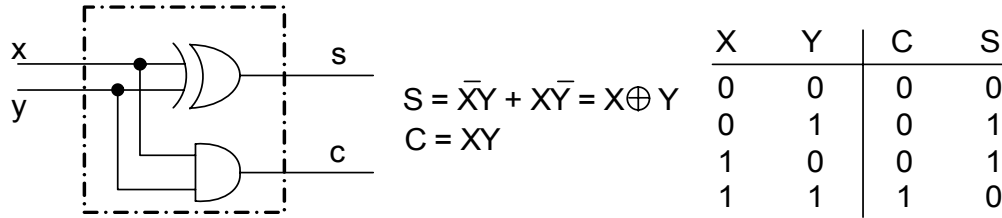
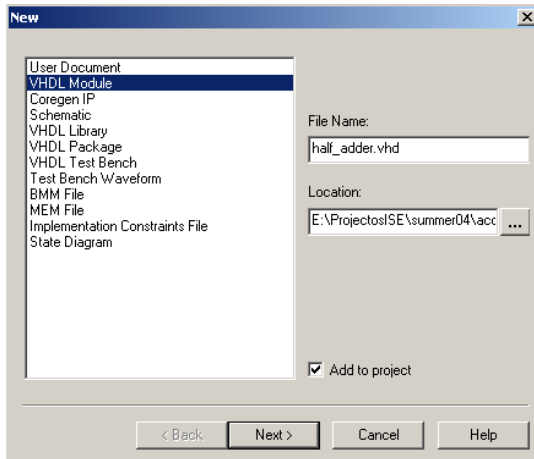
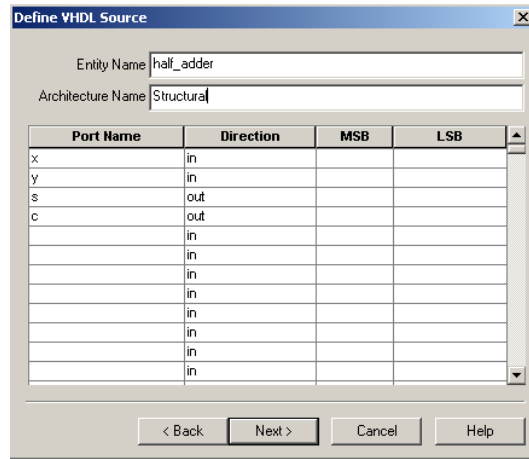
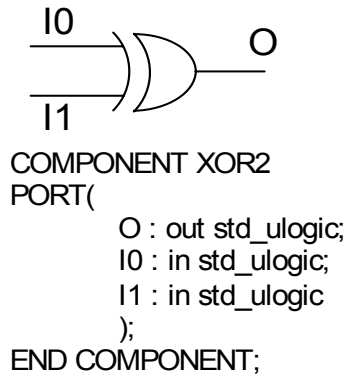

Figure 1; half adder logic diagram, equations and truth table
Figure 5
Figure 6
Figure 7; XOR gate and its component declaration.
A basic half adder logic diagram is shown in figure 1, including its equations and truth table. It is called a half adder because it does not include a “*carry in*” within its inputs. Note that the circuit is made of simple XOR and AND gates.
3. Creating a new source file; Go to **Project** → **New Source**, select **VHDL Module** and enter the name “*half\_adder*” as shown in figure 5. You will get a window as shown in figure 6, to define the VHDL source; fill out the architecture name as *structural* and declare the inputs and outputs of the half adder circuit following the logic diagram in figure 1. Click **Next** → **Finish**. The result will be a new source file where the skeleton is ready for you to fill out with the description of the circuit.
4. Declaring components; Following logic diagram in figure 1, you will need two kind of gates, a XOR gate and an AND gate. Figure 7 shows each gate and its component declaration. Remember that a component declaration goes between “*architecture structural of half\_adder is*” line and the “*begin*” line.
5. Connecting components; Component instantiation (section where you describe the connections between components) goes between the lines “*begin*” and “*end structural*” in the VHDL description of the system. Follow the logic diagram in figure 1 to describe the connections between the gates and inputs/outputs of the half adder. Remember from last lab the format for component instantiation is as follows: